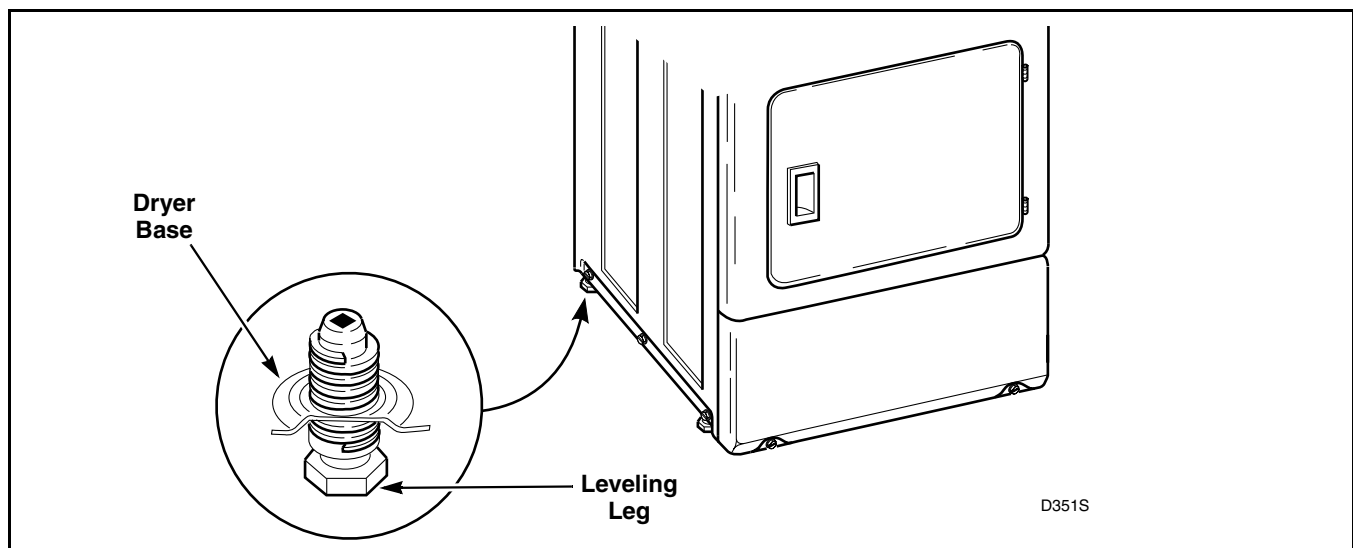

Figure 41
- p. Remove leveling legs from base and reinstall on new base. Refer to *Figure 41*.
Refer to *Figure 41*.